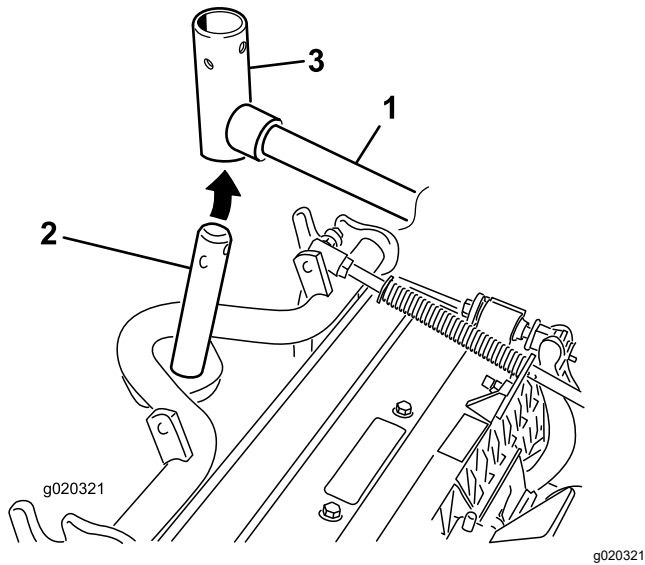

Figure 10
10. For the front cutting units, slide a cutting unit under the lift arm while inserting the carrier frame shaft up into the lift-arm pivot yoke (Figure 10).
- B. Insert the lift-arm yoke onto the carrier frame shaft (Figure 10).